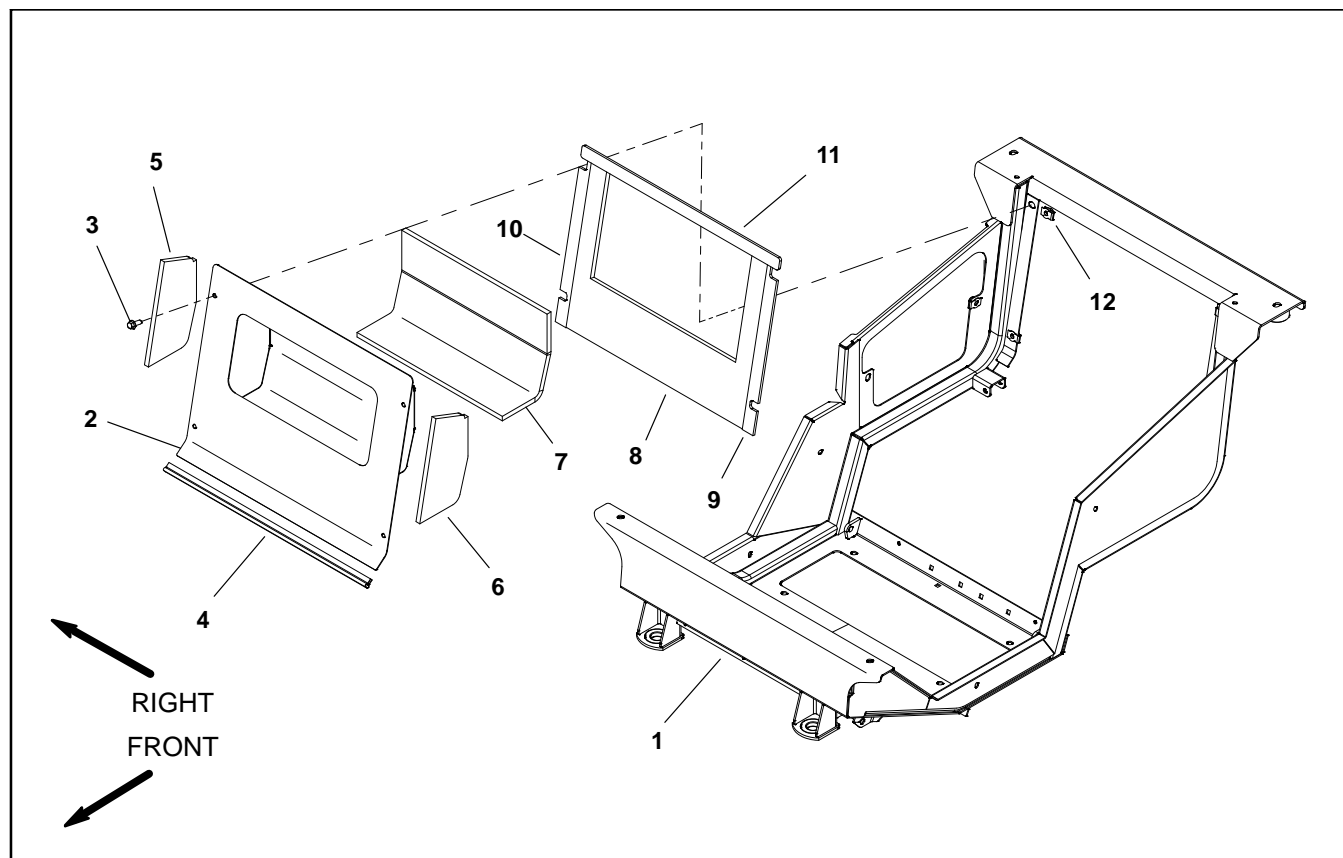

Figure 10
9. Disassemble heater/evaporator assembly using Fig. 10 as a guide.
Removal (Fig. 10)
Installation (Fig. 10)